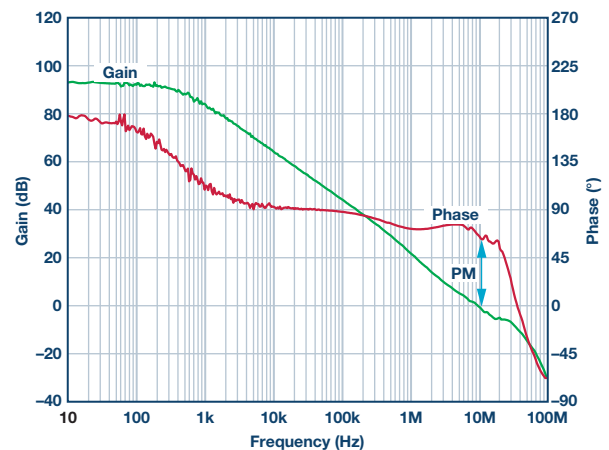
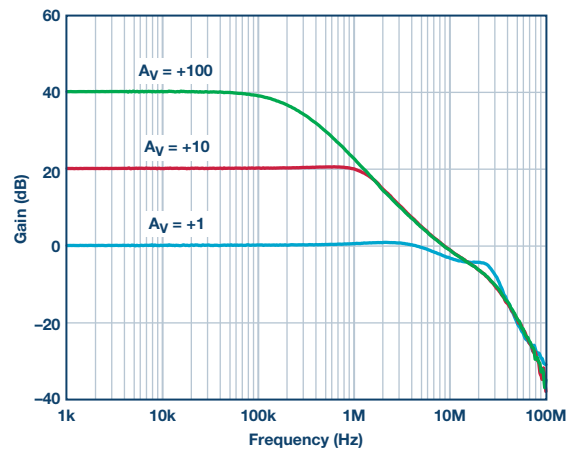

Figure 1. Open-loop gain and phase vs. frequency.
Figure 2. Closed-loop gain vs. frequency.
The key op amp specifications for a voltage feedback op amp in this application are the gain bandwidth product (GBP) and the phase margin (PM). Figure 1 shows the open-loop gain and phase vs. frequency for the ADA4610, a popular precision op amp. The plot shows that the op amp gain at low frequency is greater than 30,000 (90 dB), rolling off at 20 dB per decade, and reaching unity (0 dB) at about 10 MHz—known as the unity-gain crossover frequency. The op amp open-loop gain plot gives us the ability to determine its GBP and design an amplifier circuit with a given closed-loop gain and bandwidth such that $\text{GBP} = \text{gain} \times \text{BW}$, as shown in Figure 2. For example, notice how a one decade decrease in closed-loop gain (A_V) from 100 (or 40 dB) to 10 (or 20 dB) results in a one-decade increase in bandwidth, from 163 kHz to 1.63 MHz.
Similarly, the op amp phase plot in Figure 1 relates to the inherent phase shift of a signal as it passes through the op amp. The phase margin can be approximated by reading the phase shift at the bandwidth of the amplifier circuit. In the case of the ADA4610, it is approximately 67°, which is plenty
The amount of closed-loop gain can be calculated using the following equation. Where β is the feedback factor, $1/\beta$ is the ideal closed-loop gain (say, 100 V/V in the green line in Figure 2), and the product $A\beta$ is called the *loop gain*.
Graphically, think of the loop gain $A\beta$ as the difference between the open-loop dc gain in Figure 1 (and also listed in the data sheet specifications) and the closed loop gain in Figure 2. For example, using a nice round number of 100 dB for the op amp open loop gain, and an ideal closed-loop gain of 40 dB, we get a loop gain of 60 dB (or 1000 V/V). Table 1 demonstrates that increasing loop gain gives us less error (more precision).